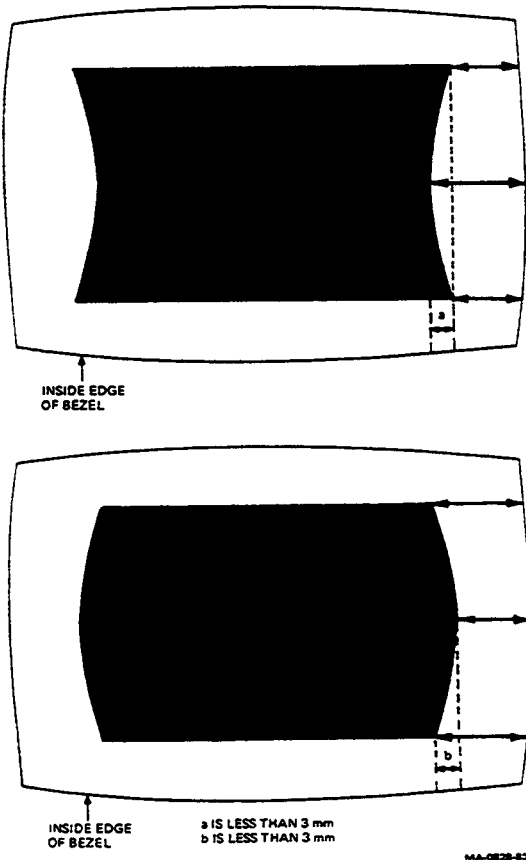

Figure 4-10 Rectangularity Check
3. Measure from the lower-right corner, right middle edge, and upper-right corner of the pattern to the bezel (Figure 4-10).